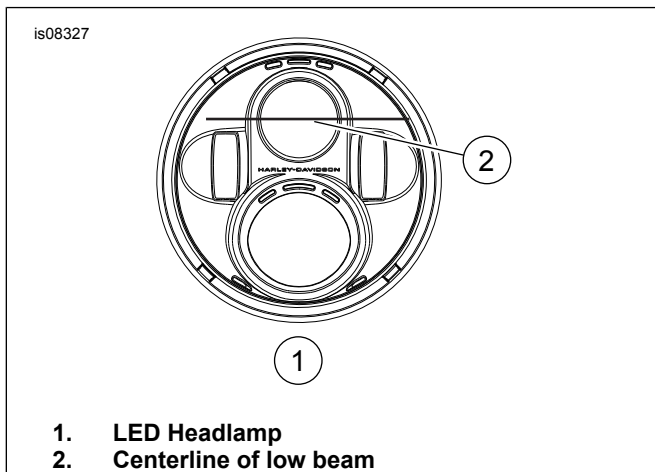

Figure 3. LED Headlamp Configuration
4. See Figure 3. Position motorcycle so front axle is 7.6 m (25 ft) (3) from wall.
5. See Figure 3. With vehicle laden and upright, point the front wheel straight forward at wall. Measure the distance from the floor to the center of the **low beam** lens (2). Record this measurement.